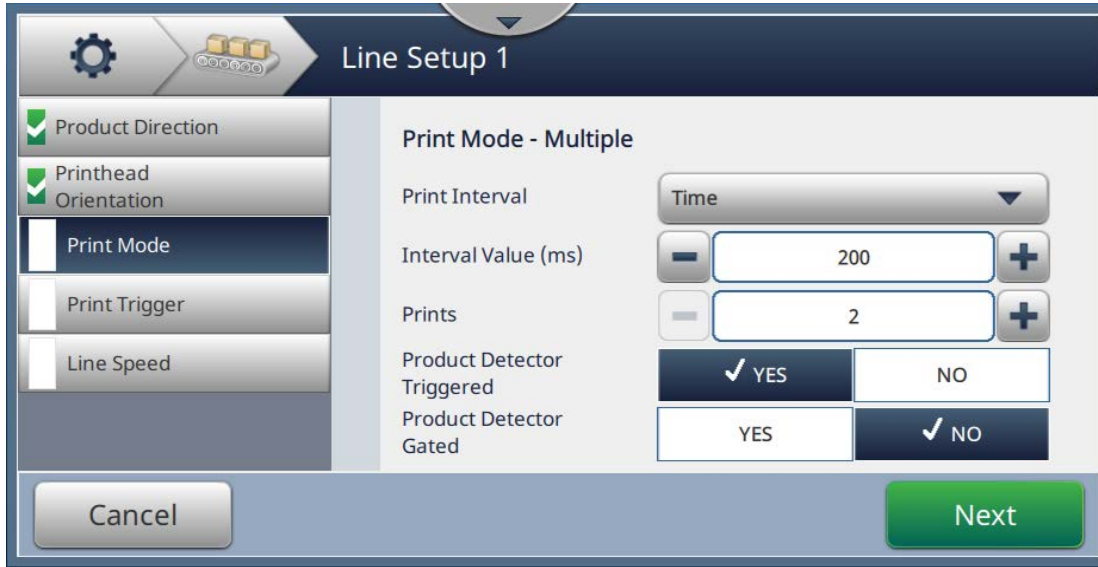

Figure 6-32: Print Mode - Multiple
2. Change the parameters in Settings screen, touch the  button to set the mode as shown in Figure 6-32.